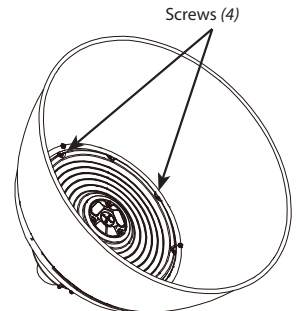

Fig: 4
3. Secure the **Reflector** to the **Heat Sink** with (4) 4x8mm **Screws** (provided) as shown in Fig. 4.